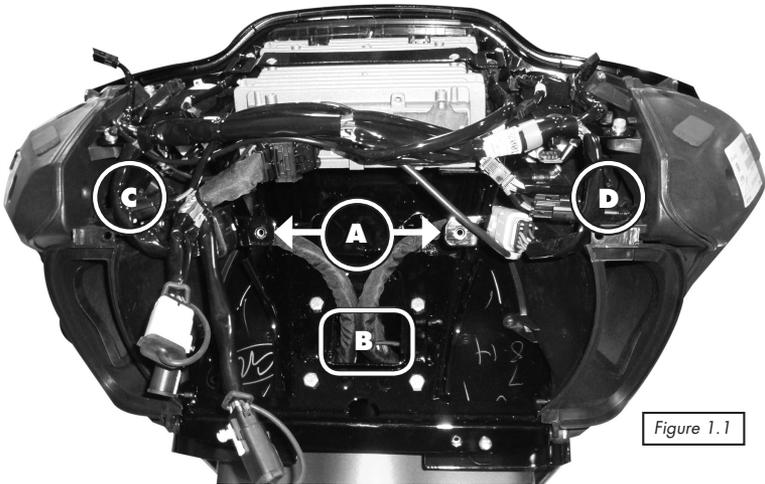

Figure 1.1
Step #1: Locate the “splitter” power harness included in this kit. You will see one end that has “ring terminals”, and the other end that “splits” and has 2 power connectors on it. Using Fig 1.1 on page 5 for reference, run the “ring terminal end” of the power harness through “B”. Position it so the 2 power connectors on the “split end” are accessible in the inner fairing and the slack can be adjusted later in the installation. Just in front of the tank, there is a structure that attaches the fairing to the frame of the bike. The power harness will pass through this structure and exit through the rectangular opening where the factory harness also exits the structure on the BRAKE side of the bike. Note: it can be easier to pass the wire harness through the rectangular opening if you “open” the fuse holder and remove the fuse before passing the wire harness. Once the ring terminal end of the wire harness is through the rectangular opening and most of the slack is taken up, move to the next step.
- Step #5: Using Fig 1.1 on page 5 for reference, locate the 4 bolts on each of the 4 corners around "B" and remove the ones on top left and top right (only). It's best to have the amp on the plate near you before proceeding.
- Step #6: Using Fig 1.1 on page 5 for reference, locate "C" and "D" which are the 2 pin plugs on each front speaker's cabinet that have pink and pink with black stripe. These plugs attach the speaker's wiring to the bike's wiring and need to be separated. Locate the "main input" harness and insert its 8 pin plug into the "audio input" on the MASTER (back side) amplifier. On this harness, take the plug with the green heat shrink on the end and install it into the mating plug on the brake side of the bike. Take the plug with the yellow heat shrink on the end and install it into the mating plug on the clutch side of the bike.
Step #8: Using Fig 1.1 on page 5 for reference, you will see 2 large factory harnesses between "A" and "B". Wiggle the amp/plate into place around these harnesses so that the holes on the "legs" at the bottom of the plate line up with the holes where the factory bolts around "B" were.